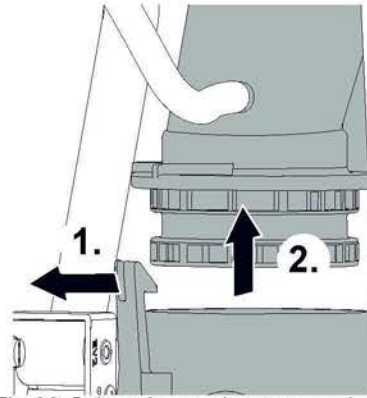

Fig. 90 Release lower exhaust connection
1. Refer to figure 90 and release the clip.